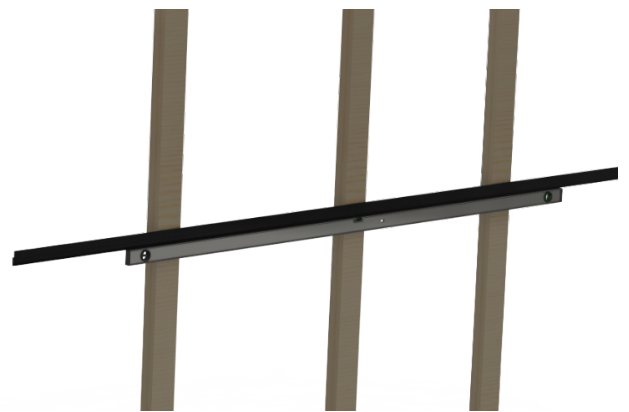

Figure 2: Hanging bar Level and on Wall Studs
2. Use a level to accurately position the hanging bar on the wall (see Figure 2).